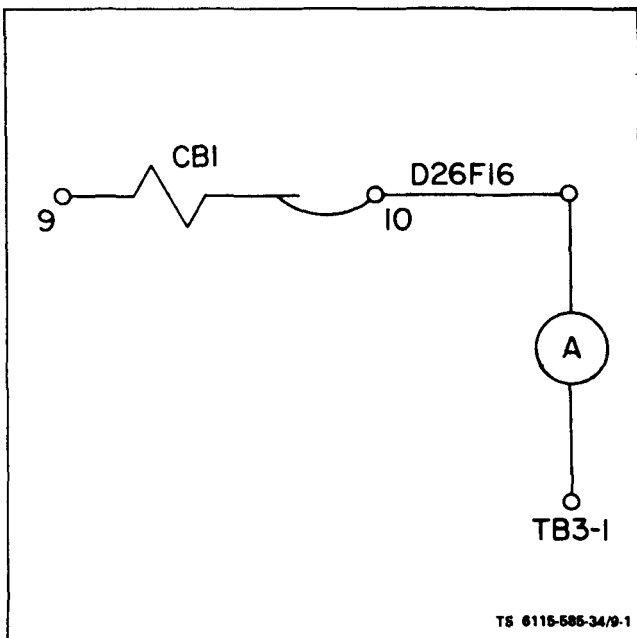

Figure 9-1. Adjusting R3 Resistor
- a. Remove wire D26F16 from TB3-1 and connect **0** to 1 amp ac test ammeter as shown in figure 9-1.